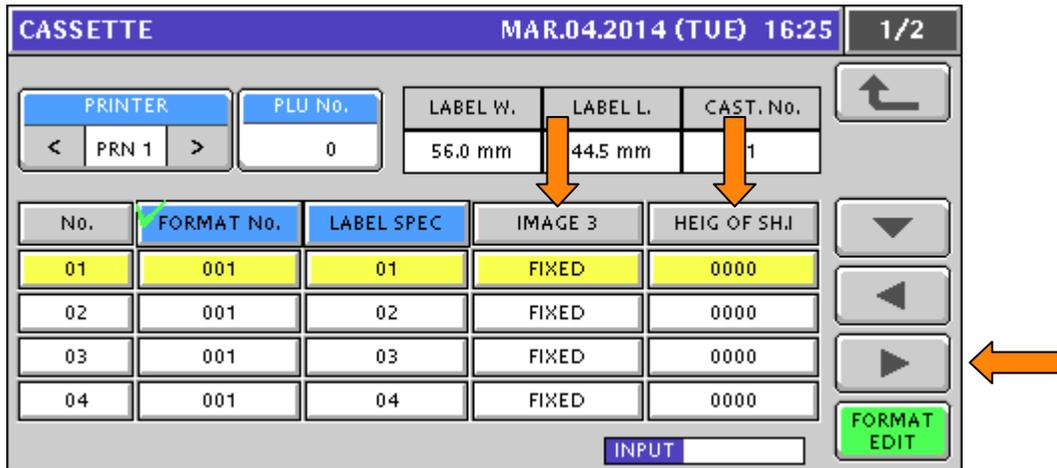

Figure 7.10 Label Cassette Setup: Logo Image 3 Type and Height of Safe Handling Image
33. Press the ► button to move to the next page. See Figure 7.10.